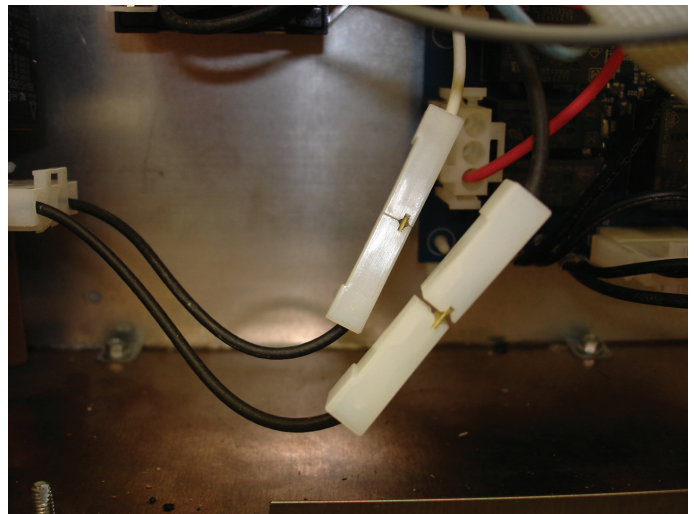

Figure 9
14. Connect black and white monitor switch wires to black wires from monitor relay board 4 pin connector (Figure 9).